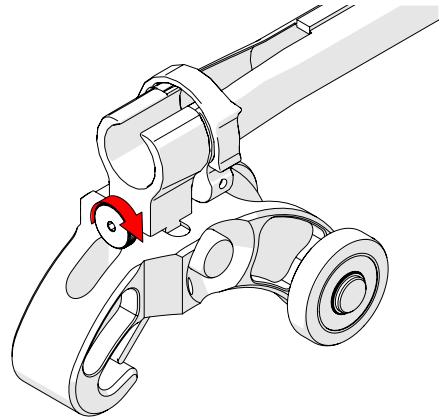

Fig. 72 - Tighten knob
2. Once centred on the Dovetail QuickLink, tighten the cable management's dovetail mount knob (Fig. 72).